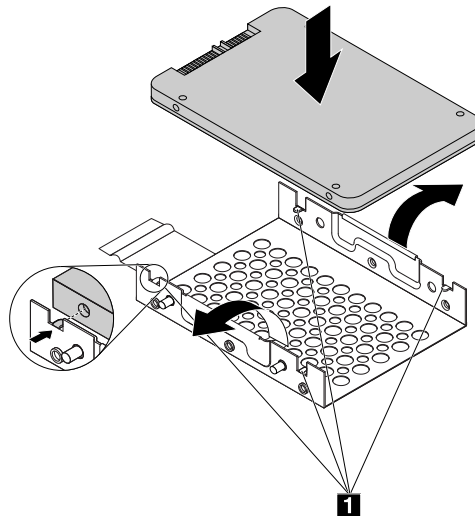

Figure 54. Installing the storage drive into the metal bracket of the converter
6. Install the new storage drive into the converter. See Figure 54 “Installing the storage drive into the metal bracket of the converter” on page 104.